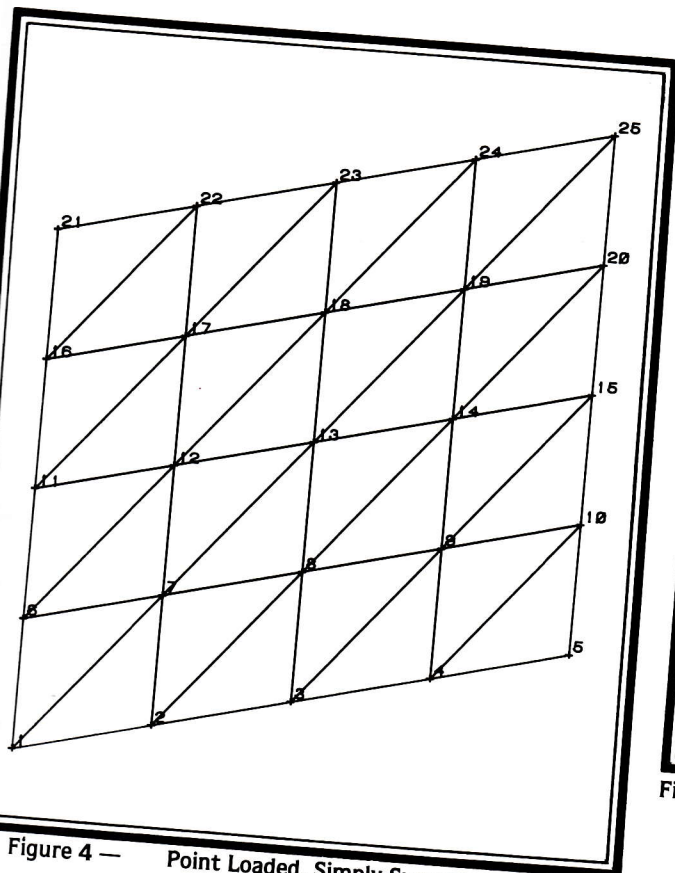

Figure 4 — Point Loaded, Simply Supported Plate
D) The Plate Element: used to model flat plates under the action of transverse loading. These elements are ideal for modeling slabs, retaining walls, etc. An example of a structure made of plate elements is shown in Figure 4.